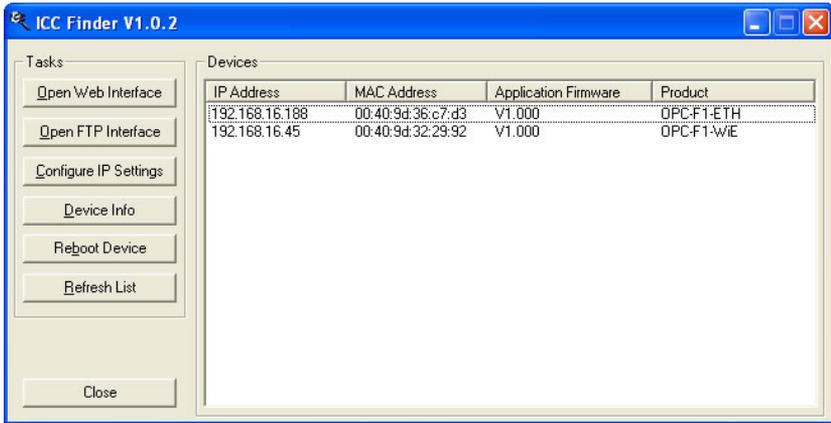

Figure 14: ICC Finder Discovery Utility
The “ICC Finder” application is a simple Windows PC program (just a single .exe file, no installations, DLL’s etc.), which when executed discovers all ICC communication interfaces on the current Ethernet subnet, regardless of whether or not their network parameters are currently compatible with the subnet upon which they reside. Refer to Figure 14.
3. The discovery utility scans the network for ICC devices and then lists each device's **IP Address**, **MAC Address**, **Firmware Version** and **Product Name**. Refer to Figure 14 on page 23. Identify your device by its unique MAC address (printed on a label on the top of the antenna module housing).